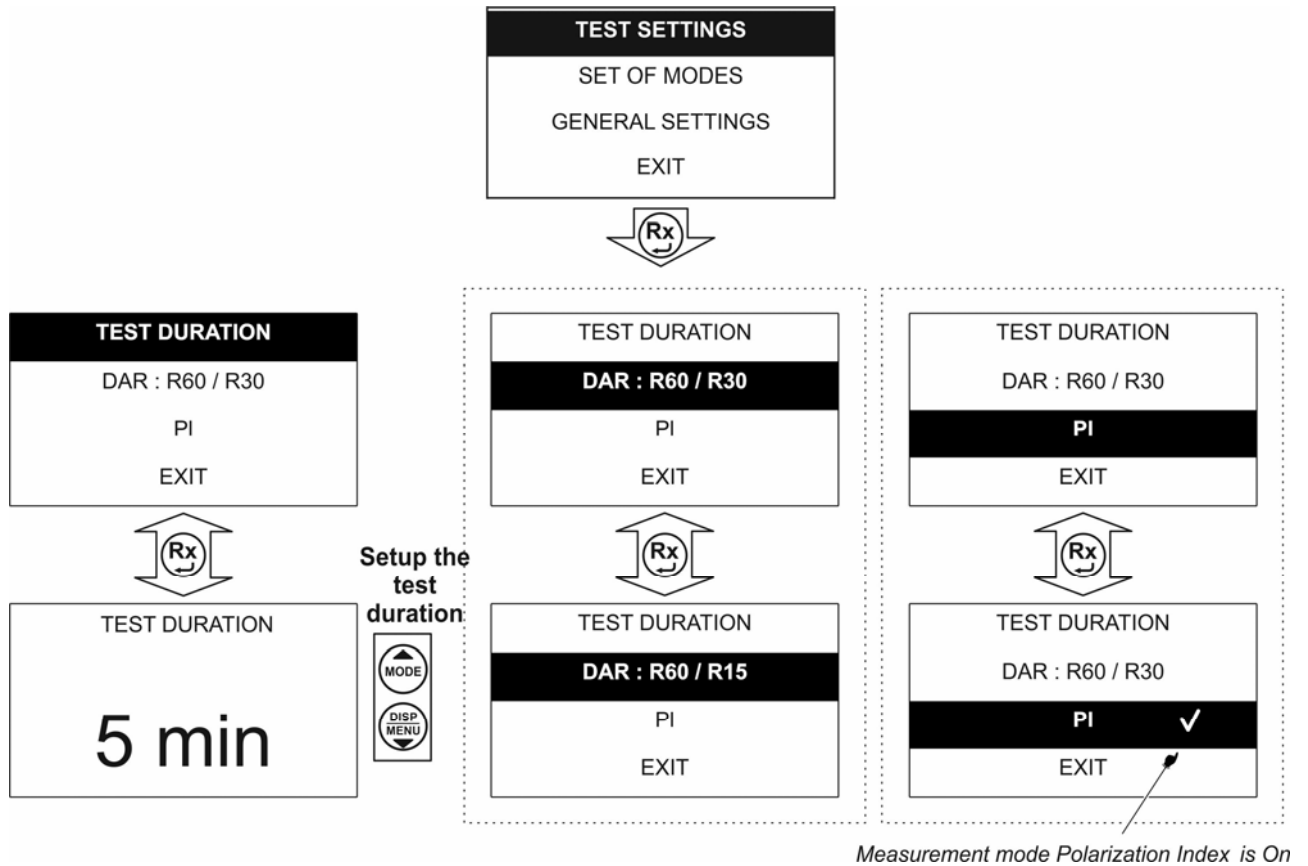

Figure 2.4 – Menu. Measurement parameters
- selection of calculation method for Dielectric Absorption Ratio:  $DAR=R60/ R15$  or  $DAR=R60/ R30$ , see item 2.3.6;
- switching on/off of Polarization Index calculation, see item 2.3.6. Example of parameters measurement is shown in Figure 2.4.